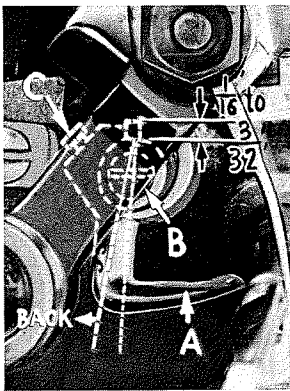

Fig. 8
Insert upper looper (A, Fig. 8) in its holder. Screw (B) holds upper looper in its holder, and permits it to be pushed in or out or turned around its shank. Insert upper looper holder into upper looper shaft, if it is not already in place. Screw (C) on clamp holds the upper looper holder in the shaft. Locate upper looper in its holder so that the shank extends 1/16 to 3/32 inch beyond holder.
When the upper looper is at the right end of its stroke, upper looper holder should be set to position upper looper shank back of vertical (Fig. 8).